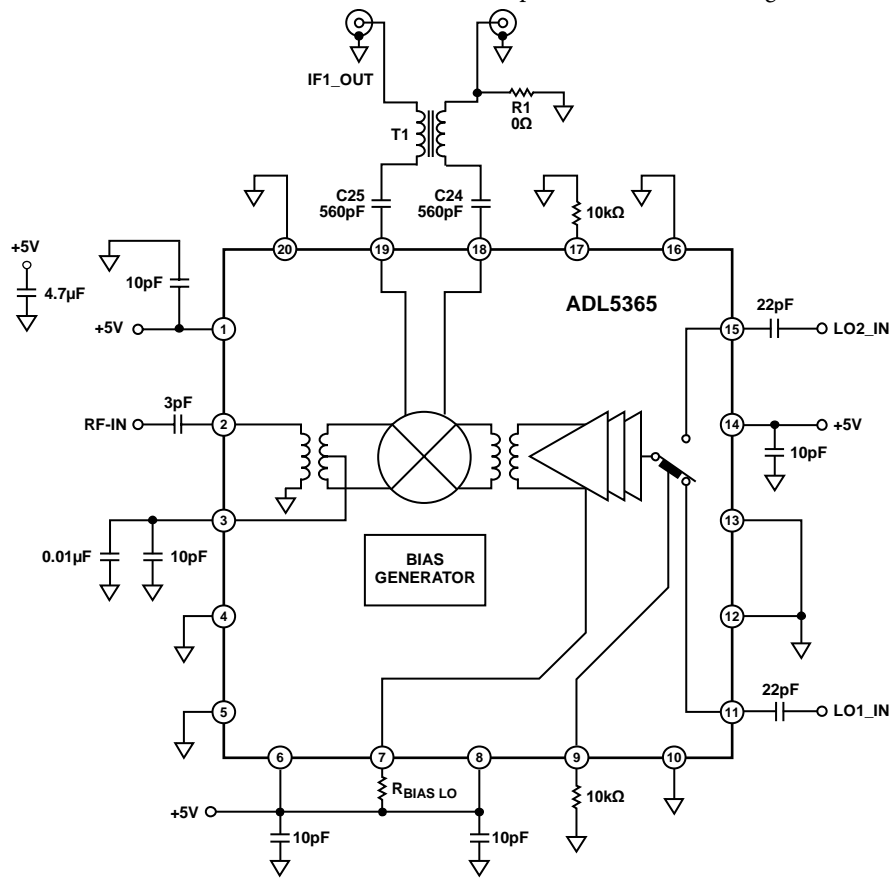

Figure 48. Typical Application Circuit
The ADL5365 mixer is designed to up or downconvert between radio frequencies (RF) from 1200 MHz to 2500 MHz and intermediate frequencies (IF) from dc to 450 MHz. Figure 48 depicts the basic connections of the mixer. It is recommended to ac-couple RF and LO input ports to prevent nonzero dc voltages from damaging the RF balun or LO input circuit. The RFIN capacitor value of 3 pF is recommended to provide the optimized RF input return loss for the desired frequency band.